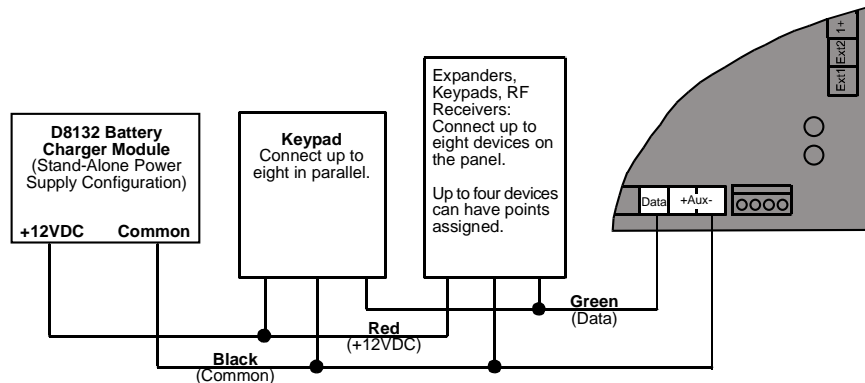

Figure 6: Power for Keypads
You may need to add one or more D8132 Battery Charger/Power Supply Modules for the number of keypads you want to use. *Figure 6* shows the D8132 powering keypads in a stand-alone configuration.
**D2212 and D8132 (or other power supply) must share COMMON:** Note that *Figure 6* shows the common from the D8132 module connected to both keypad's common and the Aux- (common) terminal on the panel. Do not connect the stand-alone power supply to earth ground.